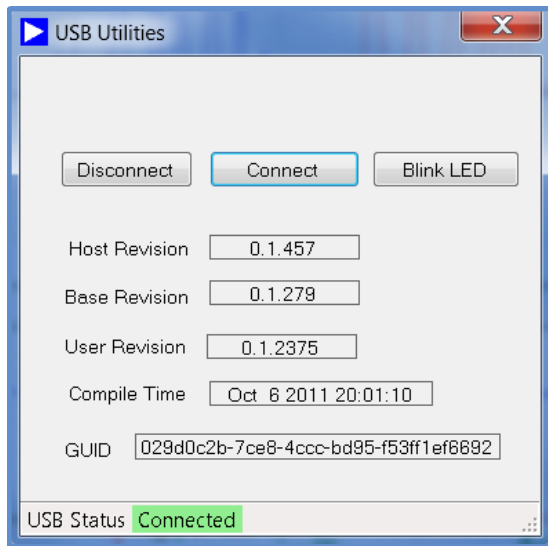
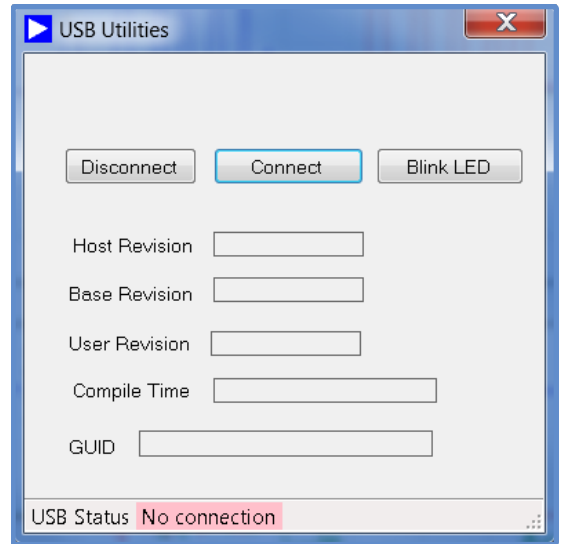

Figure 15. USB Tools, Connected
Figure 16. USB Tools, Not Connected
6. If the software does not recognize the **EVAL-ADIS** automatically, click **USB Tools** and then click **Connect** to establish communication (see Figure 15).
Clicking **USB Tools** in the menu bar of the main window provides a diagnostic tool for managing the USB connection to the **EVAL-ADIS**. Click this option to request a connection attempt. This window also provides several revision numbers. These numbers represent internal source control codes and are for Analog Devices, Inc., internal use only (see Figure 15 and Figure 16).